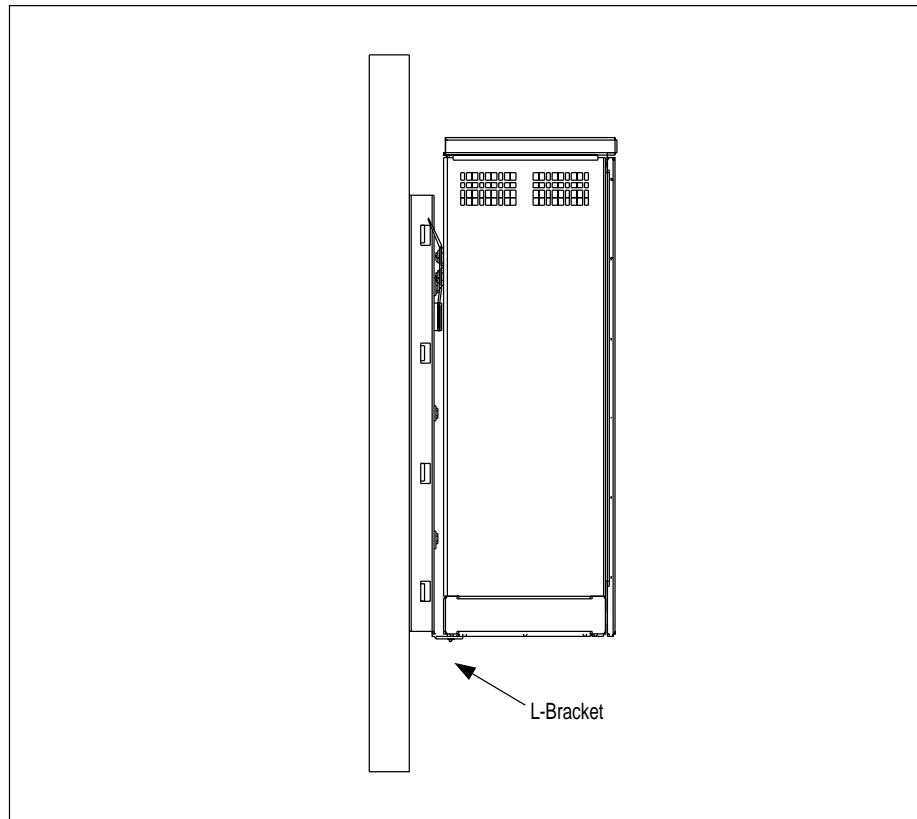

Figure 4-9. Wall Mounted cabinet
10. Install the L-bracket to the bottom of the cabinet. See Figure 4-9 on page 4-21.